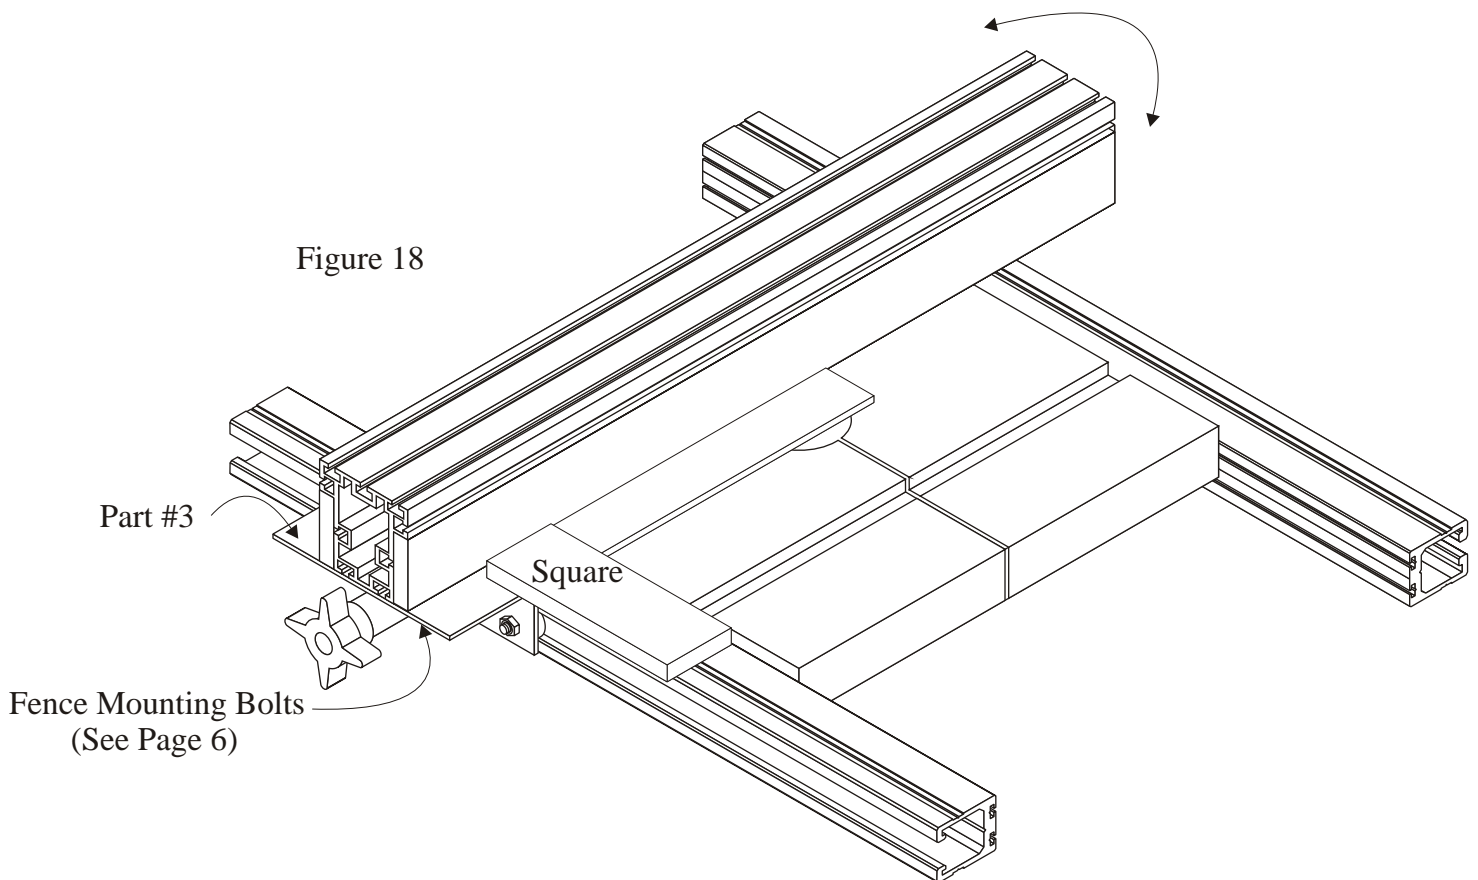

Figure 18
2. Using a square check the fence alignment as shown in (Figure 18). Move the Fence from the far end right or left to bring the fence even with the blade of the square. With the Fence aligned to the square tighten all four Fence mount Bolts.